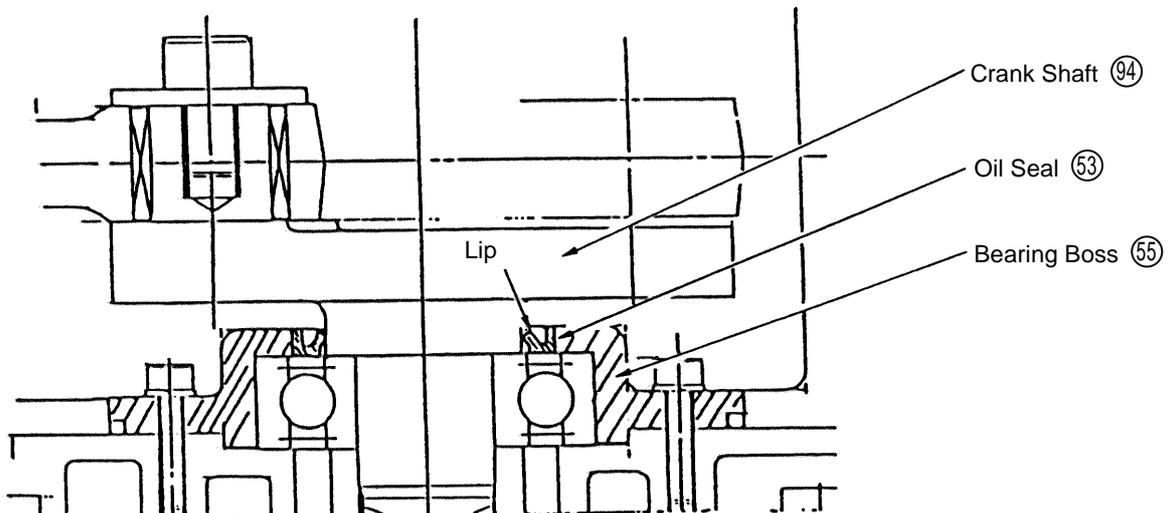

Fig. 12
A. Mounting of the Oil Seal (53):
As illustrated in Fig. 12, the lip side of the Oil Seal (53) must be facing in the same direction in which the Crank Shaft (94) is assembled.